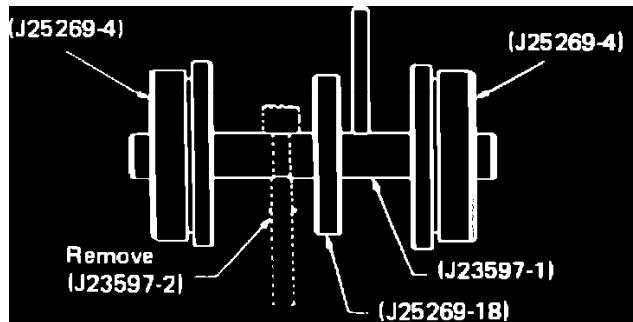

Fig. 36 Arbor assembly w/side bearing discs
3. Assemble side bearing discs to arbor, **Fig. 36**.